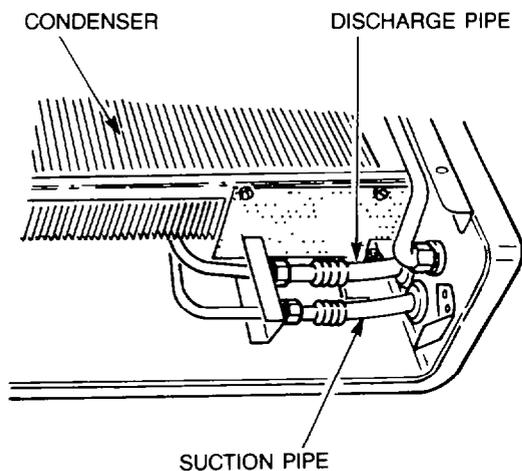

Figure 13 — Discharge and Suction Pipes — Removal (Condenser)
- c. Disconnect the discharge and suction pipes from the condenser (see Fig. 13), plug the pipes with suitable plastic plugs.